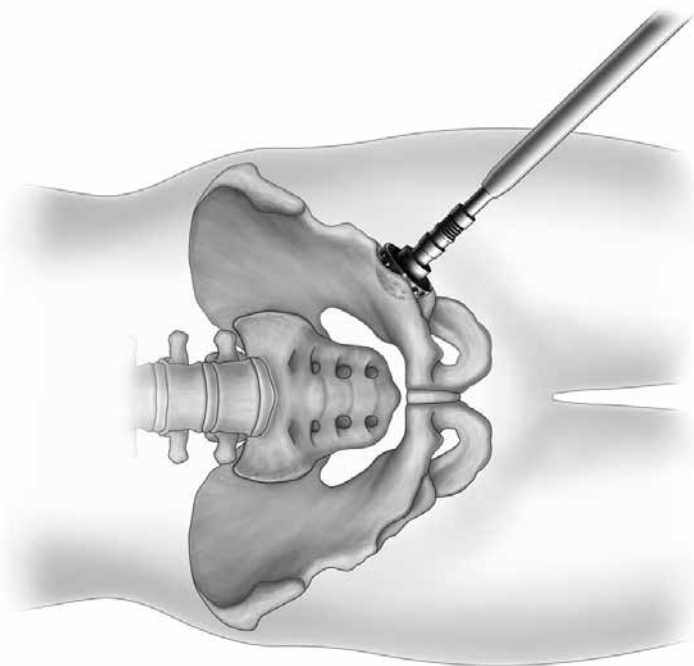

Figure 1
Step 3: Initial reaming may be directed more medially, though subsequent reaming should be done in 45 degrees of abduction and 20 degrees of anteversion (*Figure 1*).